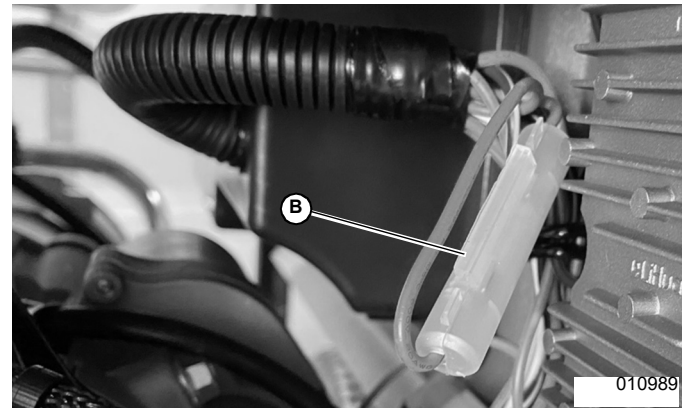
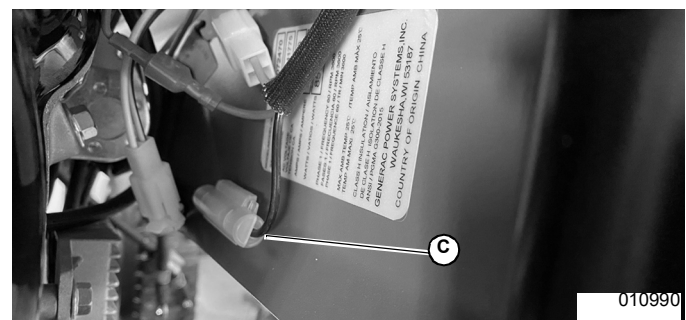

Figure 3-4. Fuse F1
Figure 3-5. Fuse F3
See **Figure 3-4** and **Figure 3-5**. Fuse F1 (B) and Fuse F3 (C) are located in the wire harness behind the control panel.